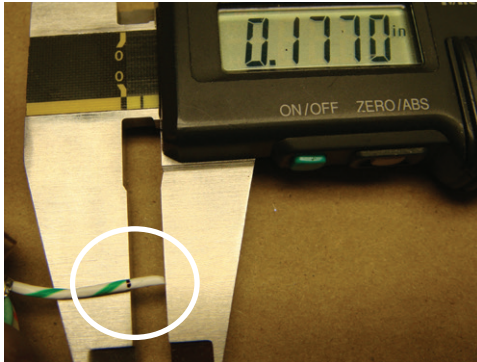

Figure 64: Marking each wire
13. Mark each wire at 0.177 inches + 0.008 inches / -0.000 inches from the end of each primary wire (Figure 64).